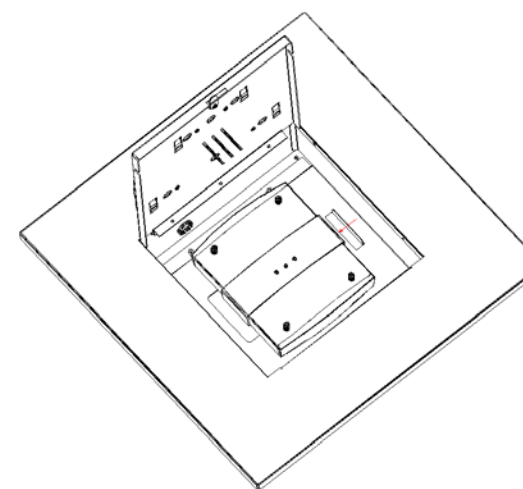

Figure 4 - Lock AP in Place
Step 4 – After the AP is set in the enclosure, lock it in place by sliding the enclosure's locking plate toward the AP until you feel it "click" (the locking plate will slide approximately 1/2"). Pull up on the AP to verify that it is properly latched. If you feel the AP lift from the enclosure, open the locking plate and adjust the AP so that all four feet fall into the key slots, then slide the locking plate back into position (reference Figure 4).